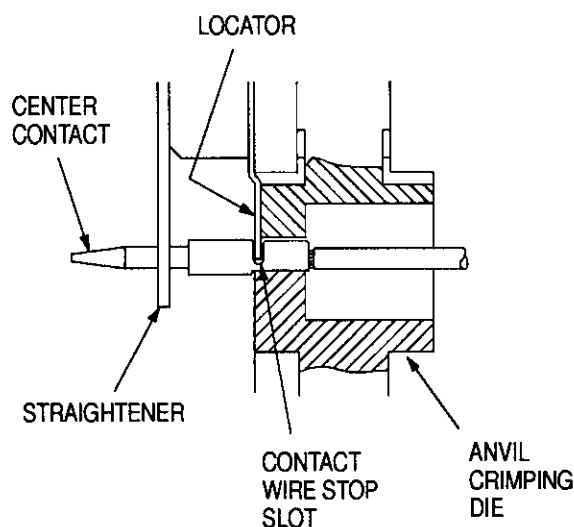

Figure 2
4.1. Crimping the Center Contact (Figure 2)
2. Close the tool handles so that the dies partially close. Position the contact so that the locator drops into the contact wire stop slot and the end of the contact is inside the groove in the straightener. See cross-sectional view in Figure 2.
4. Insert stripped cable into contact wire barrel until it is butted against the locator. See cross-sectional view in Figure 2.
The crimped center contact may stick in the crimping area, but the contact can be easily removed by pushing downward on the top of the locator (see Figure 2).